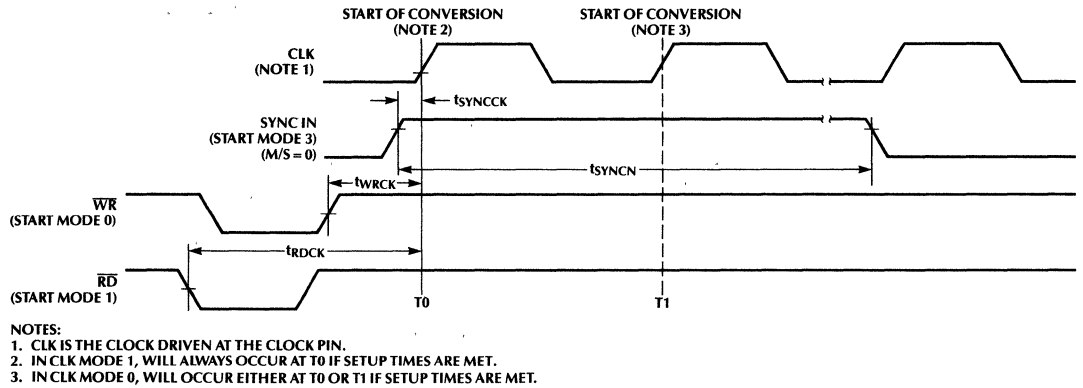

Figure 5. Synchronous Start of Conversion (Start Mode 0,1,3)
- Note 13:** In CLK Mode = 0 (CK1X bit in control register = 0) start of conversion will occur at specified time; or time plus one  $f_{CLK0}$  period (see Figure 5).